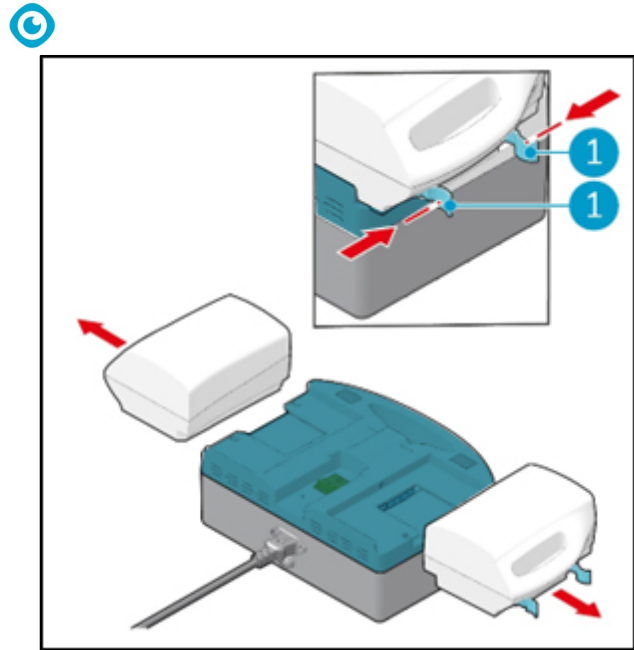

Figure 9
7. Press the plastic clips of the battery (Figure 9, pos 1) slightly towards each other.